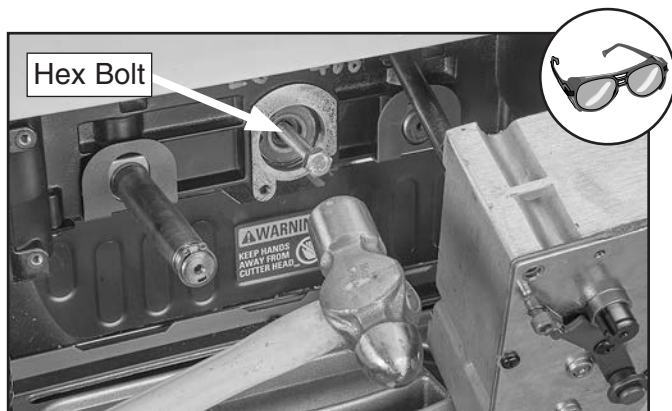

Figure 14. Hex bolt in helical gear threads.
33. Install $\frac{5}{16}$ "-18 x 2 hex bolt into helical pinion gear threads (see **Figure 14**).
34. Remove wood board and gently tap hex bolt dead center with hammer until cutterhead is unseated from carriage (see **Figure 14**).